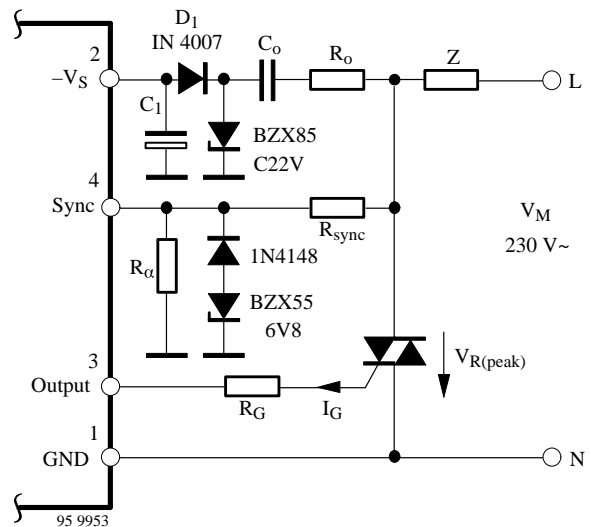

Figure 6.
**$\alpha_{min}$ -operation, Figure 6**